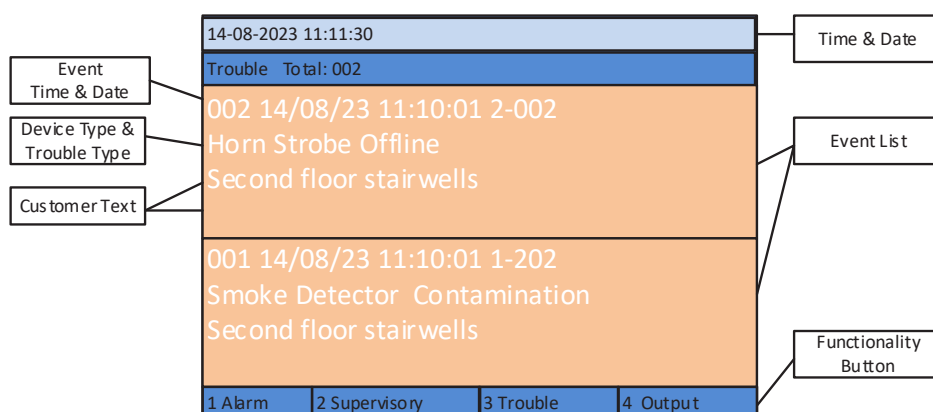

Figure 29 LCD Display (Trouble)
- LCD identifies the trouble event with device type, address, trouble type, customer text and time/date, as shown in Figure 29